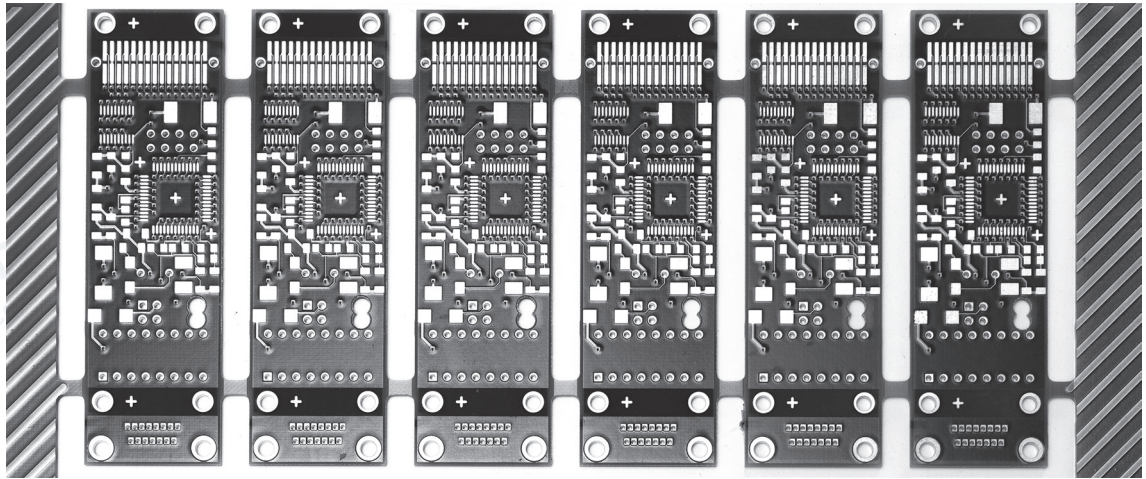

Figure 11.2
- (iv) PCBs can be blocked together as shown in Figure 11.2.